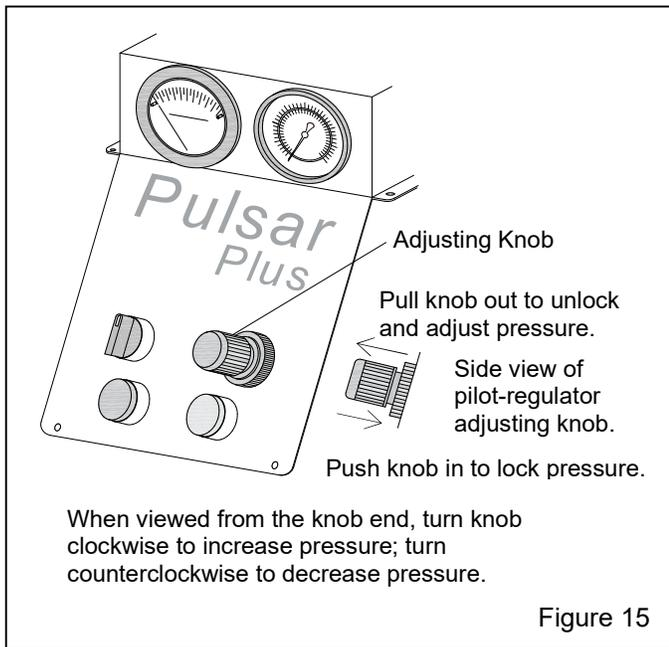

Figure 15
5.1 Blasting Pressure (pilot regulator) – Figure 15
5.1.2 Pressure registers on the gauge only while blasting. To adjust pressure, unlock the regulator knob by pulling it out, as shown in Figure 15. Hold the nozzle securely and press the foot pedal to begin blasting. Turn the knob clockwise to increase pressure or counterclockwise to decrease pressure. Once operating pressure is set, push the knob to lock it and maintain the setting.